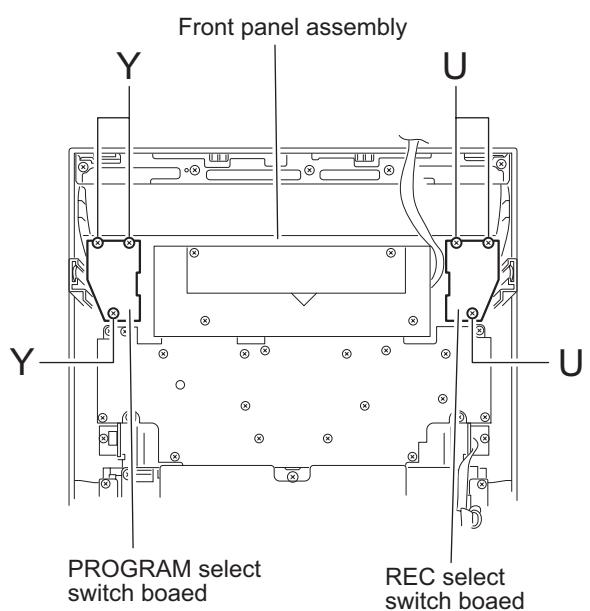

Fig.27
3.1.9 Removing the REC select switch board / PROGRAM select switch board (See Fig.27)